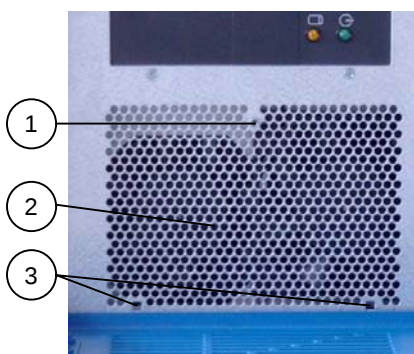
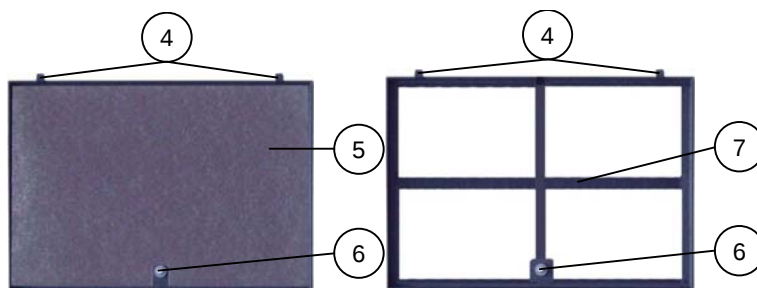

Figure 28: Location for filter mat holder
Figure 29: Filter mat holder with and without filter mat
6. After cleaning and drying the filter mat, replace it into the filter mat holder, Replace the filter mat holder to the front side of the chassis (see fig. 28, pos. 3 and fig. 29, pos. 4).
Legend for figures: 28 and 29: